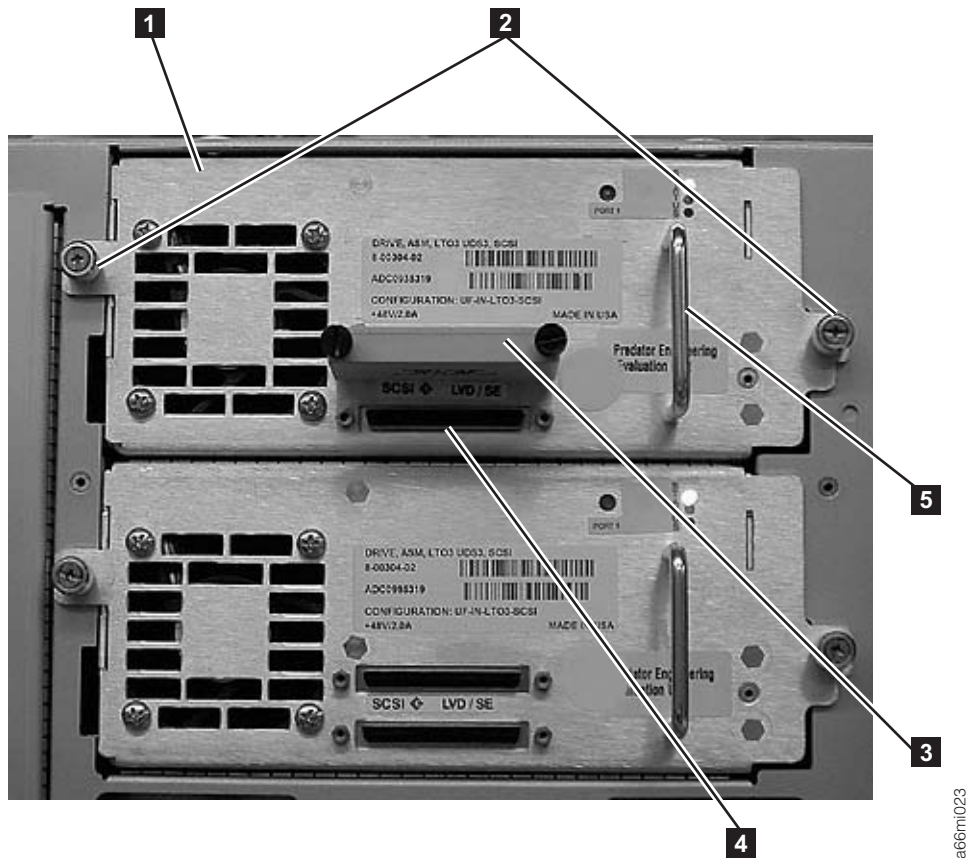

Figure 3-5. SCSI Drive Sled (detail)
1. Loosen the two thumb screws (2 in Figure 3-5) that hold the drive sled in place by turning them counterclockwise.
2. To remove the drive sled, grasp the handle (5 in Figure 3-5) and slowly pull it toward you, while supporting the drive sled from underneath.